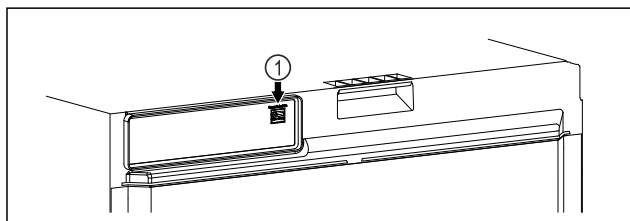

Fig. 109
- ☐ SmartModule Fig. 109 (1) has been inserted.